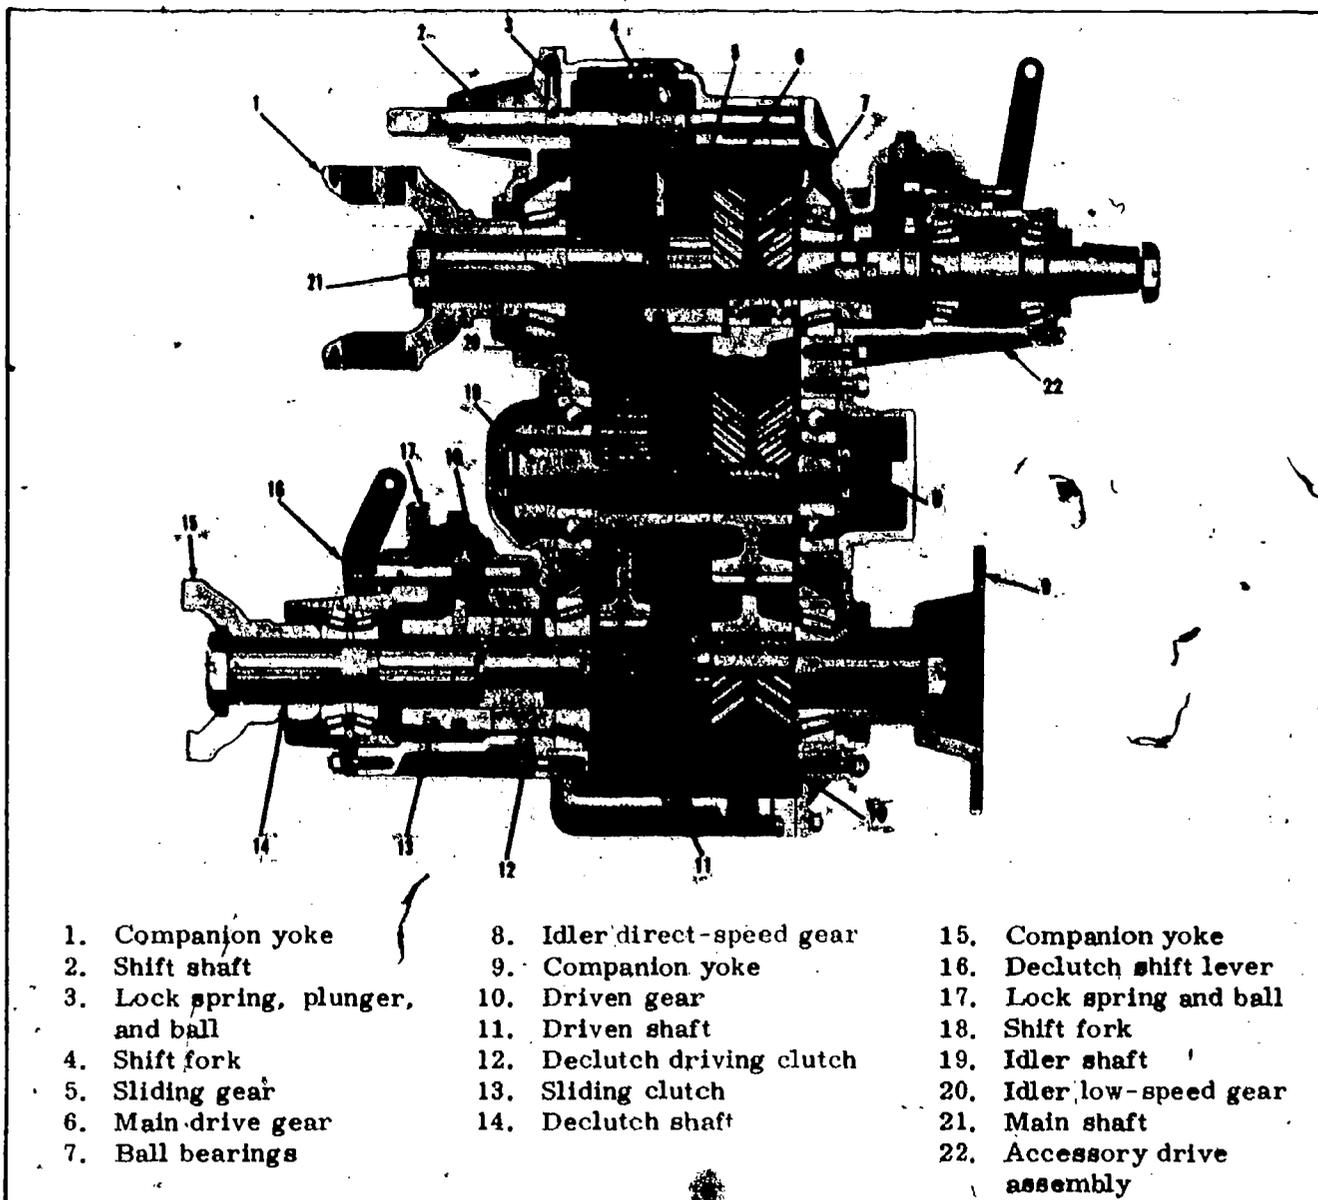

Fig 3-22. Transfer case, sectional view.
(2) Constant-mesh.
(a) General. Although a transfer case (fig 3-22) is different in nomenclature, the illustration shows that constant-mesh and sliding-spur-gear transmissions and transfer cases are similar in construction and function. In the constant-mesh assemblies, the main shaft gears are mounted on bearings and depend upon another component, the sliding gear (fig 3-22, item 5), to transmit the power from the main shaft to them. The main-shaft gears remain in one place on the shaft; they do not slide along the shaft as the straight spur gears do. They are in constant mesh with the gears on another shaft. The constant-mesh transmissions normally use a straight spur gear for the reverse and first-speed main shaft gear. You will note that the constant-mesh gears (fig 3-22, items 6, 8, and 10) are helical gear; this allows more tooth contact and quieter operation.
(b) Function. Power enters the case and rotates the main shaft and the sliding gear. If the sliding gear is moved forward, it will engage the low-speed gear (the low-speed gear fig 3-22, item 20), and transmit the power to the driven shaft. The constant-mesh gears will also rotate on their antifriction bearings. If the sliding gear is moved to the rear, the straight spur teeth will mesh with the internal teeth of the main drive gear and transmit the power to the driven shaft.
(c) Miscellaneous. The transfer case in figure 3-22 has four points for attaching units to be driven. Item 1 receives the power, item 22 is an accessory drive assembly, item 9 is the rear wheel drive, and item 15 is the front wheel drive. Also shown are sliding clutches, sometimes referred to as jaw clutches.